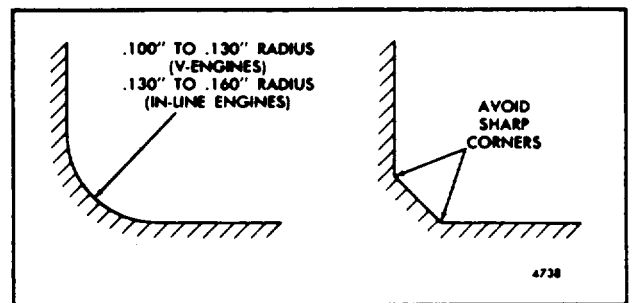

Fig. 7. Crankshaft Journal Fillets
3. All journal fillets must have a .100" to .130" radius between the crank cheek and the journal, and must not have any sharp grind marks (Fig. 7). The fillet must blend smoothly
6. If the thrust surfaces of the crankshaft are worn or grooved excessively, they must be reground and polished. Care must be taken to leave a .100" to .130" radius on the 6V engine, between each thrust surface and the bearing journal (Fig. 7).